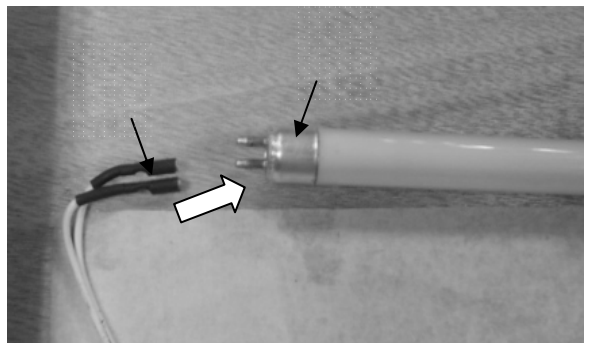

Fig12
- 5.As Fig.12, plug the white output wire of ballast into the ends of light tube.